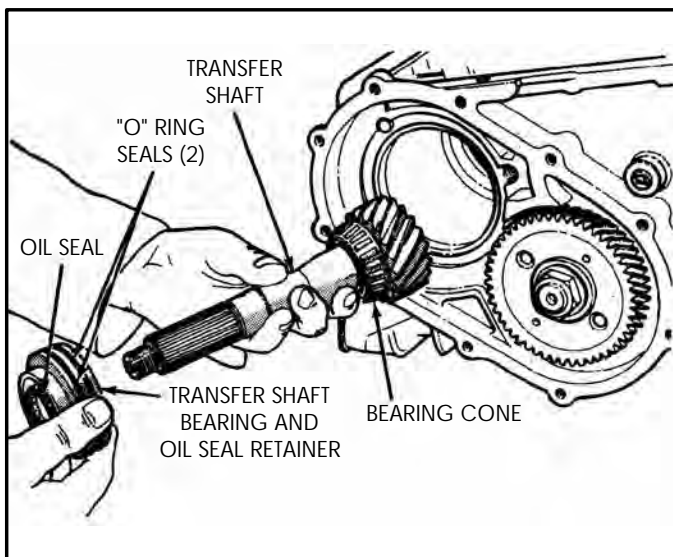

Figure 128
13. Separate the bearing retainer from the transfer shaft, as shown in Figure 128.